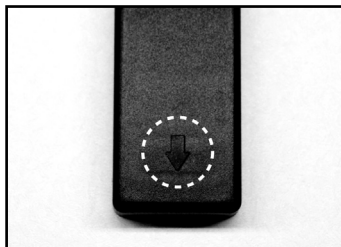

FIGURE 2
2. Remove Sensor Block from Water Filtration Chamber. Locate arrow on Block (FIGURE 2).